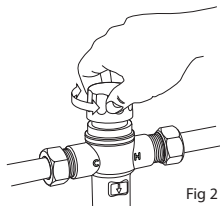

Fig 2
3. Turn the cap clockwise to decrease or anti-clockwise to increase the temperature (Fig 2).